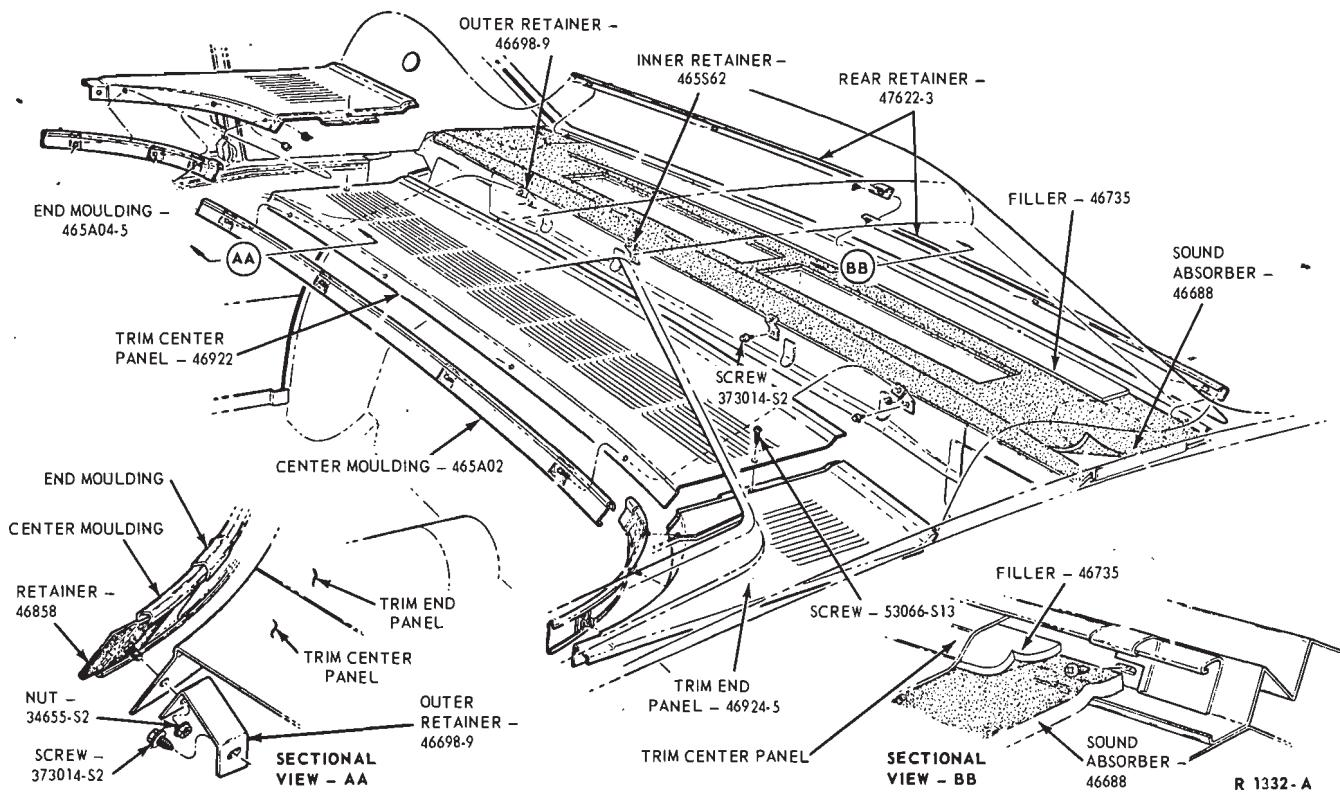

FIG. 14—Package Tray Trim Panels—Thunderbird 2-Door
4. Remove the package tray trim end mouldings (Fig. 14).
4. Position the package tray trim center panel to the package tray and the trim end panels. Then, install the center to end trim panel attaching screws (Fig. 14).
5. Install the trim center panel retainer attaching screws (Fig. 14).